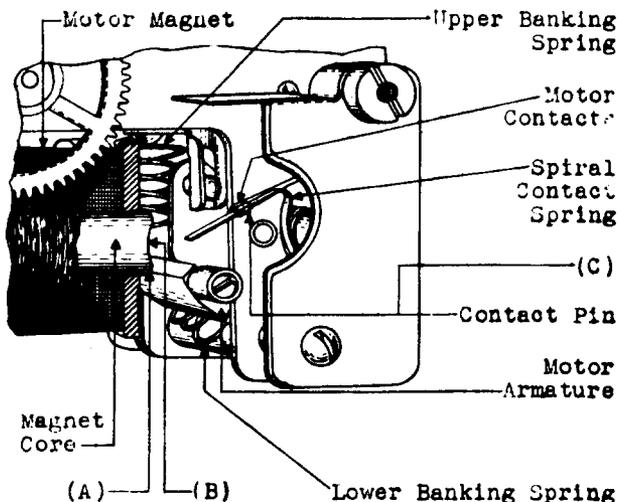

Fig. 5 - Winding Motor
(a) Fig. 5 (A) - When the armature is in the normal position, the front edge of the armature shall be approximately in line with the lower edge of the magnet core. Gauge by eye.
- *2.16 Spiral Contact Spring Position - Fig. 5 (B): When the armature is in the normal position the straight portion of the spiral contact spring shall point to approximately the center of the motor magnet core. Gauge by eye.
- *2.17 Contact Alignment - Fig. 5 (C): The contact pin shall approximately center on the contacting portion of the spiral contact spring. Gauge by eye.